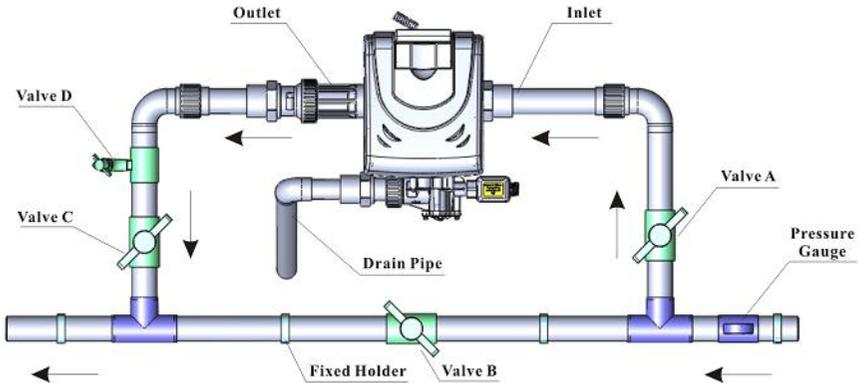

Figure 1-3
③ Pipeline connection
- a. As Figure 1-3 shows, install a pressure gauge in water inlet.